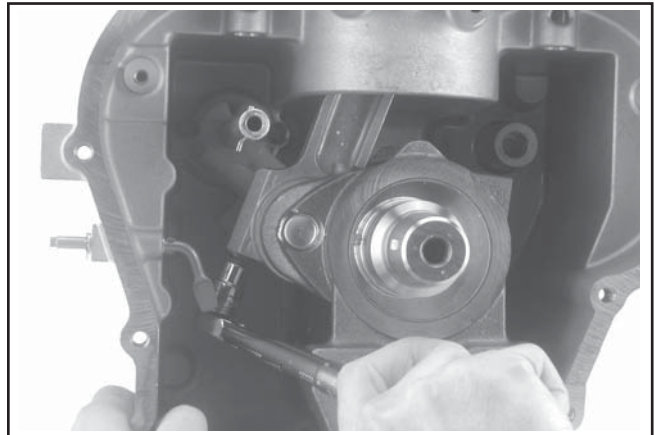

Figure 10-24. Torquing Connecting Rod Screws.
4. Install the hex flange screws and torque in 2 increments, first to **5.5 N·m (50 in. lb.)**, finally to **11.5 N·m (100 in. lb.)**. See Figure 10-24.